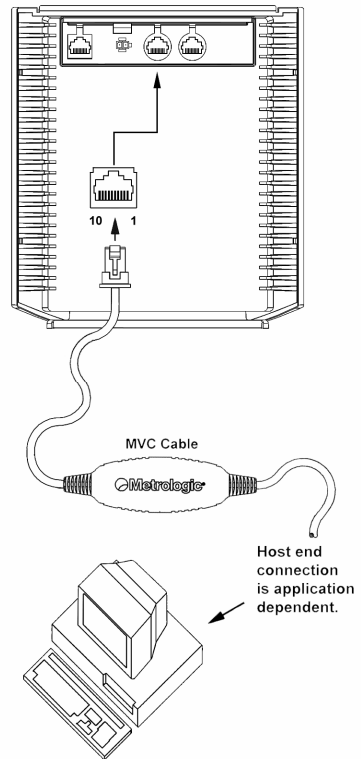

Figure 6: IBM 46xx Interface
2. Connect the MVC cable to the 10-pin IBM 46xx interface jack. It is the 1st round opening from the left side of the MS7320 (see figure 6).